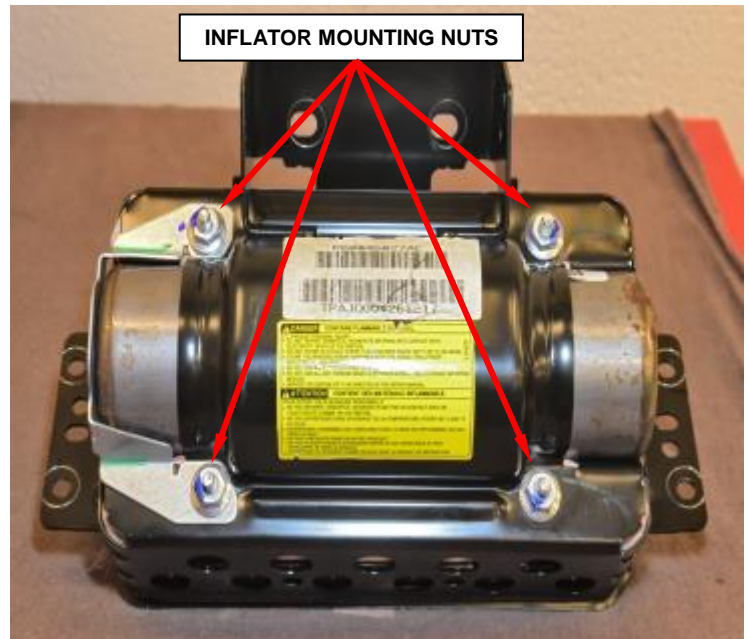

Figure 35 – Mounting Nuts
- b. Remove and **discard** the four inflator mounting nuts (Figure 35).